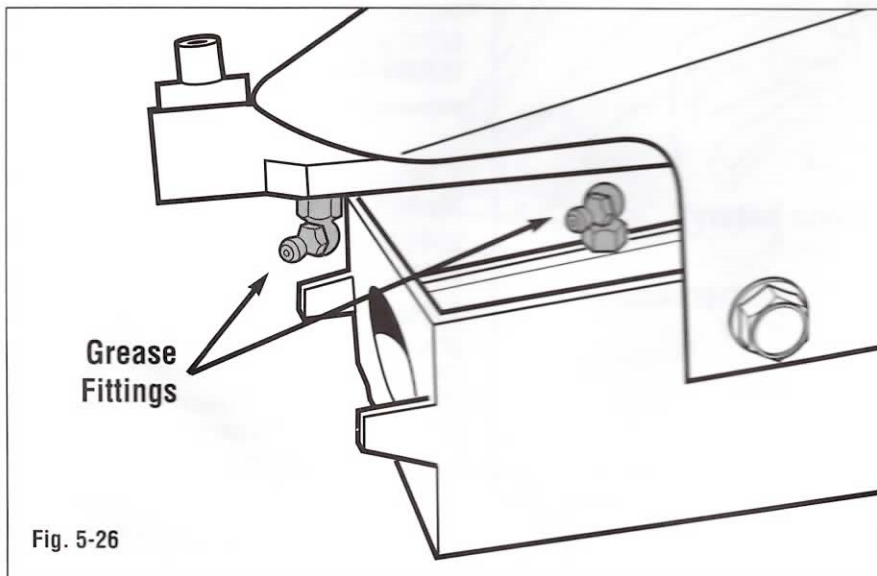

Fig. 5-26
- With a hand-operated grease gun, apply grease through the zerk fittings in the attachment mounting bracket and pitman assembly pivot shafts (see Fig. 5-26).